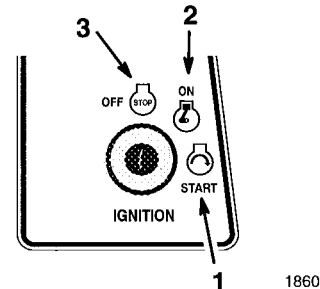

Figure 5
5. Turn the ignition key clockwise and hold it in the “START” position (Fig. 5). When the engine starts, release the key.
2. Turn the ignition key to “OFF” (Fig. 5).